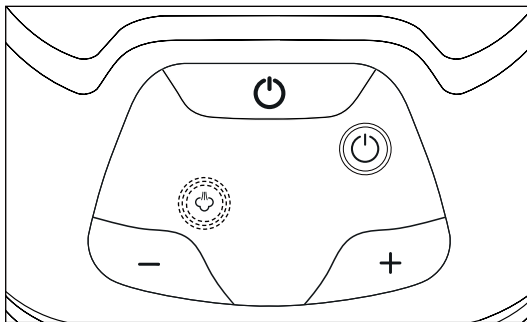

Fig. 6
- 2) Press the On/Off button **13** to switch on the appliance. The On/Off control lamp **14** lights up blue and the steam control lamp **low 18** flashes blue (see fig. 6).